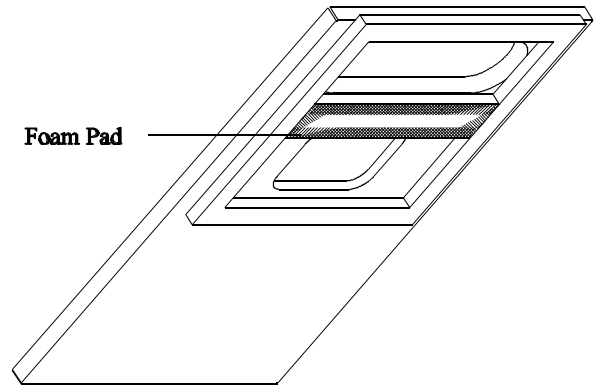

FIGURE 5
3. Install foam basepan pad at this time. See Figure 5. Pad is provided with adhesive on one side with release paper. Trim off any excess length on ends.